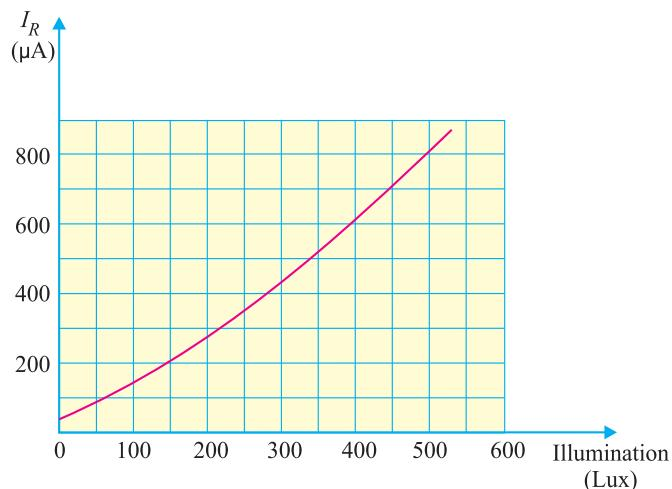

Fig. 7.16
**Example 7.3.** From the reverse current-Illumination curve for a photo-diode shown in Fig. 7.16, determine the dark resistance. Assume a reverse-biased voltage of 10 V.
The current that flows when the incident light is removed from the photo-diode is called *dark current*. The resistance of a photo-diode corresponding to dark current is called *dark resistance*. From the curve shown in Fig. 7.16, it is clear that for zero illumination, the reverse current is 50  $\mu\text{A}$ .